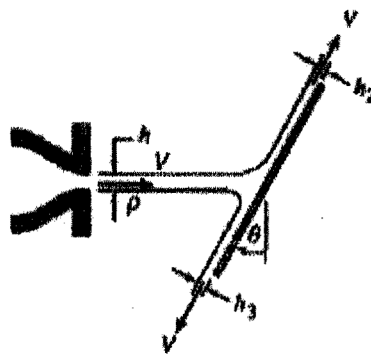

Figure 1
2. (a) When a plane liquid jet strikes an inclined flat plate, it splits into two streams of equal speed but unequal thickness (Fig 1). For frictionless flow there can be no tangential force on the plate surface. Use this assumption to develop an expression for h_2/h as a function of plate angle θ . Comment on the limiting cases $\theta = 0$ and $\theta = 90^\circ$.